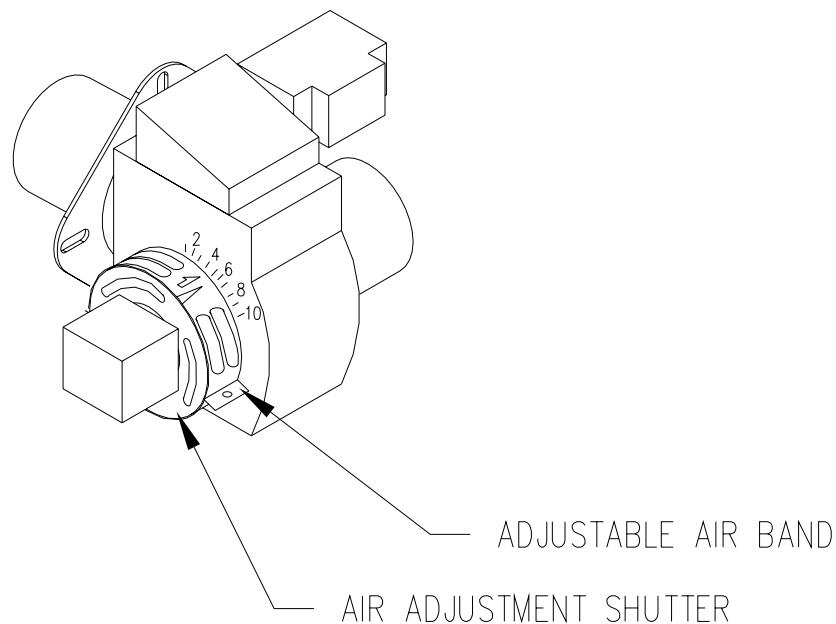

Figure 8: Preliminary Adjustment of Burner Air Band and Air Shutter
- i. When ignition is established, make a preliminary burner air adjustment to attain a clean combustion flame. Generally, the burner bulk air band should be about 3/16 inch open and the opening of the burner air shutter set in the range of “2” to “7”, refer to Figure 8.